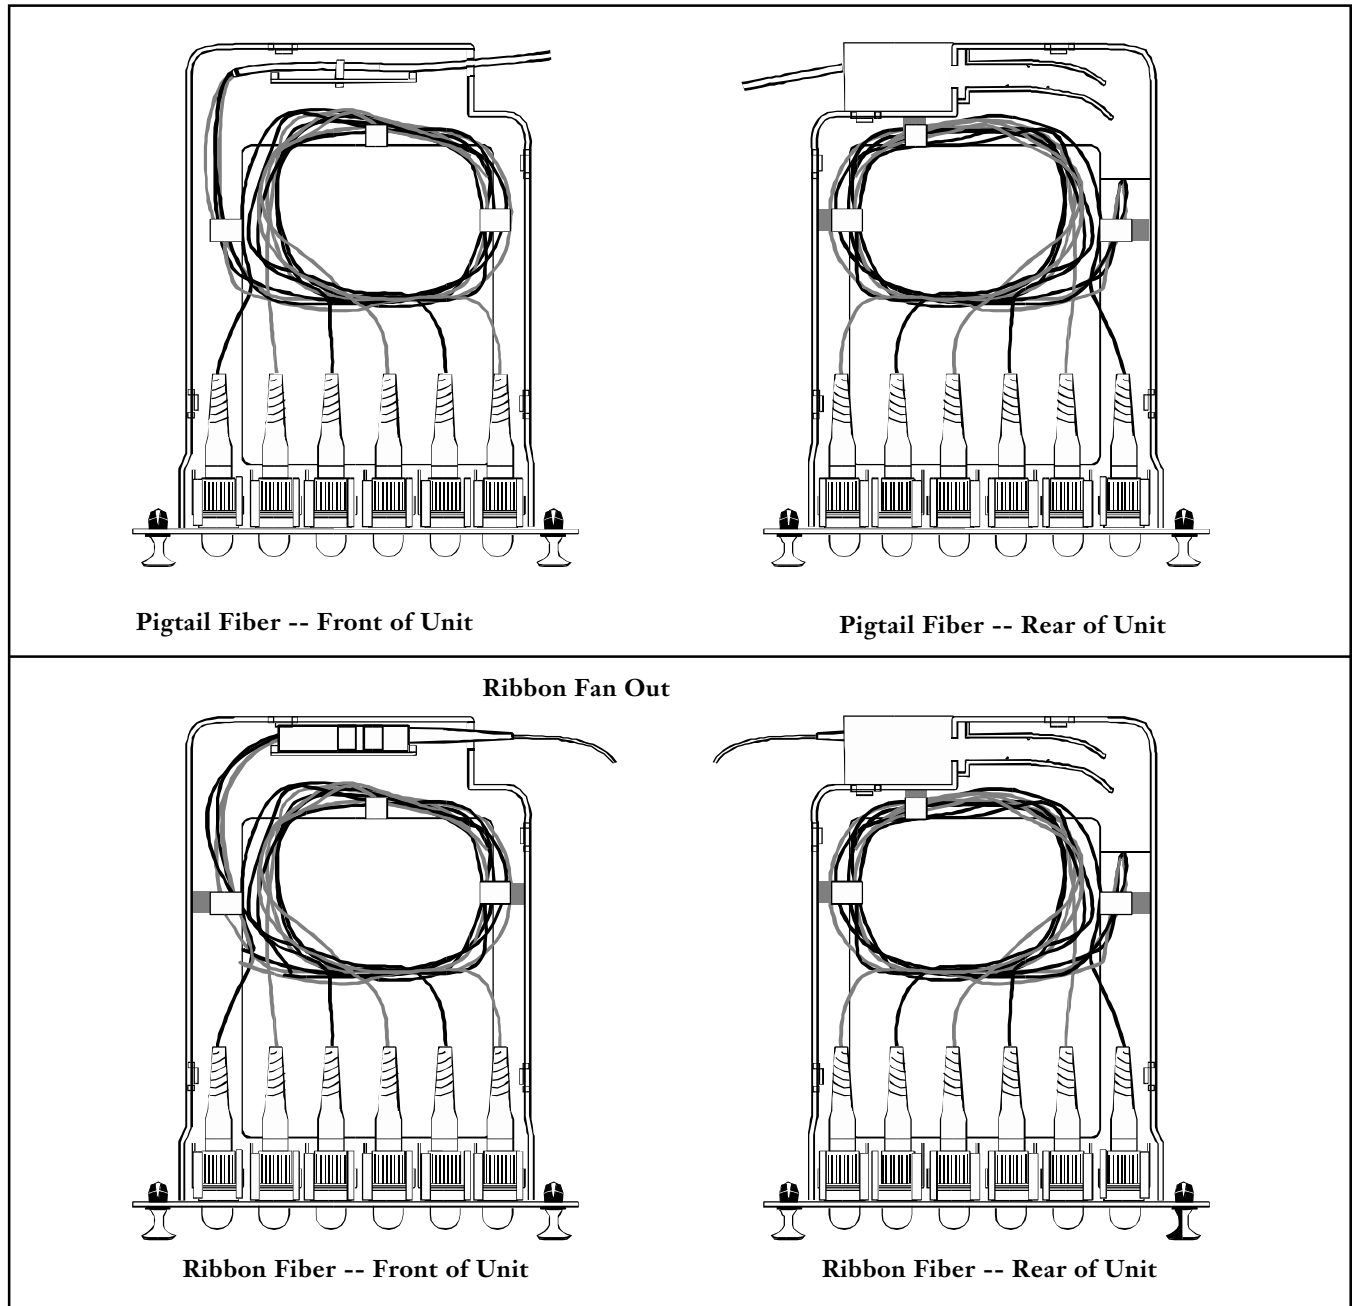

Figure 3
5.1 Strain-relieve and route fiber inside the module as illustrated in Figure 3. Note that half of the fibers are routed to the other side of the module before the connectors are installed into the connector sleeves.